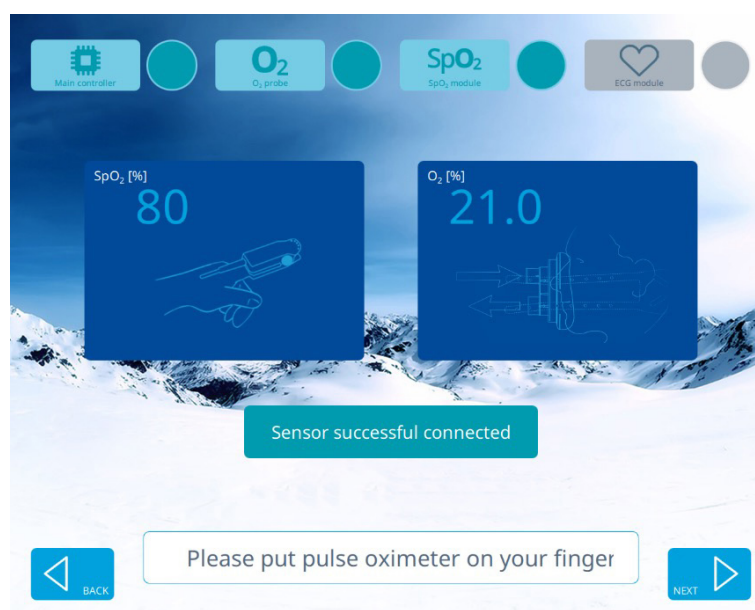

Figure 13 - Hypoxic test preparation
The Hypoxic test preparation screen is shown in the Figure 13.
- the indicators for the measurement channels of O₂ concentration and SpO₂ in the top line of the screen will be filled with blue (Figure 13).